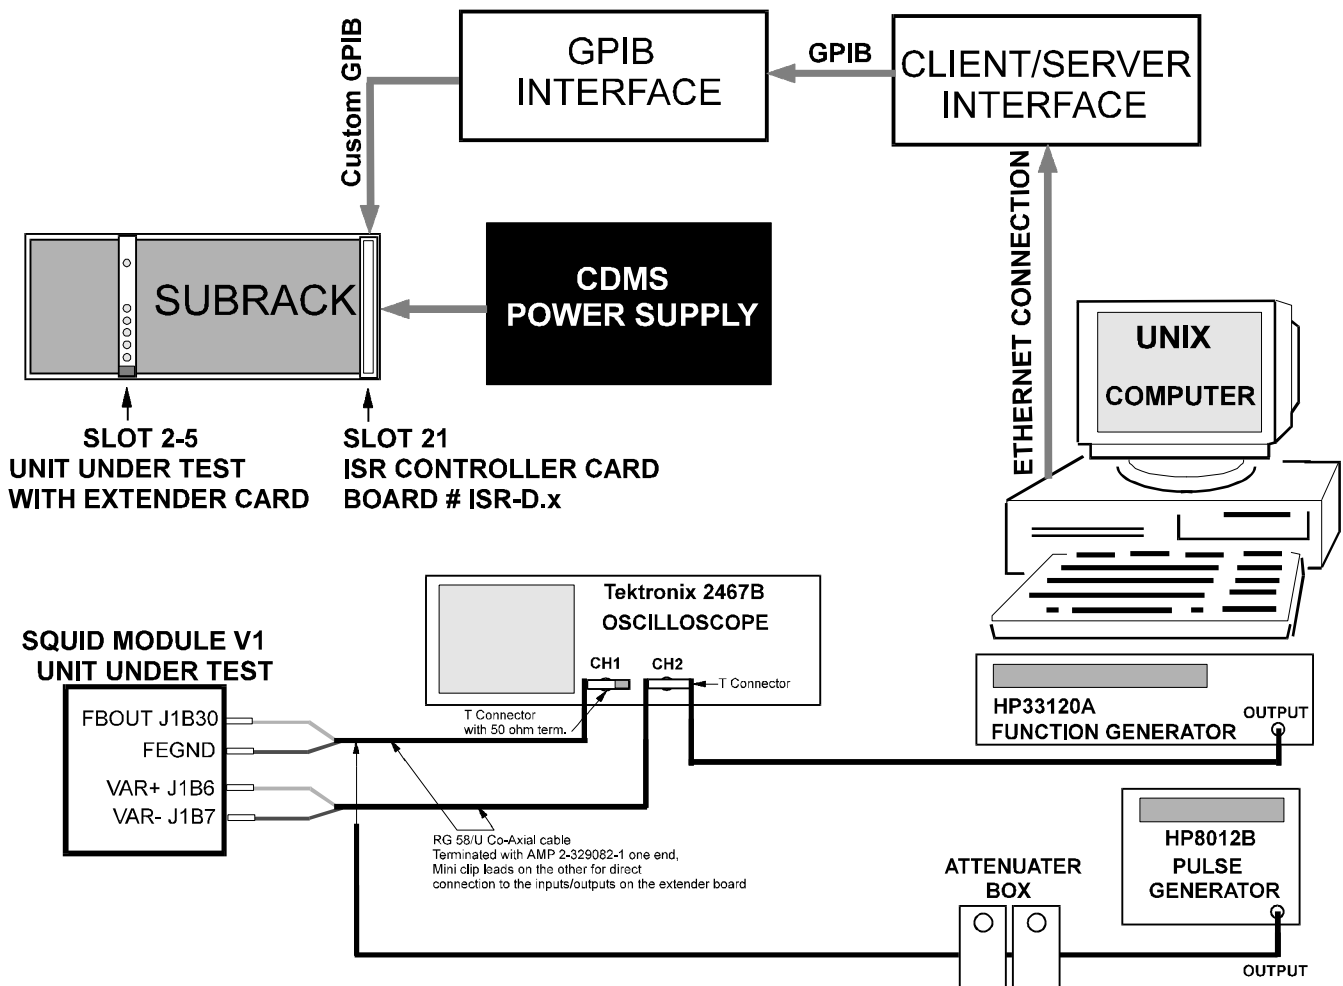

Figure 1: Test Setup
- Connect the “+” input to J1-B6 and the “-” input to J1-B7, as shown in **Figure 1**.
- Monitor J1-B30 with the scope (relative to FEGND), using the clip leads and terminating the scope input with 50 ohms. Trigger the scope on the input signal on channel 2, as shown in **Figure 1**. This signal should either be in phase or inverted relative to the input signal, depending on the state of the relay before the previous power down/power up cycle. The amplitude should be about 540 mVpp.
- Remove the variable signal coming from the function generator and input at J1-B27 (again relative to FEGND,) a pulse coming from the attenuator box. The input to the attenuator box should come from the pulse generator, (setup shown in **Figure 1**.) with 1 V amplitude, 5 usec pulse width, and 1 msec period. Attenuate this pulse by 30 dB, and verify that the amplitude after attenuation is about 33 mV.
- c) Input at J1-B27 (relative to FEGND), a pulse coming from the attenuator box. The input to the attenuator box should come from the pulse generator, (setup shown in **Figure 1**), with 1 V amplitude, 5 usec pulse width, and 1 msec period. Attenuate this pulse by 30 dB, and verify that the amplitude after attenuation is about 33 mV.